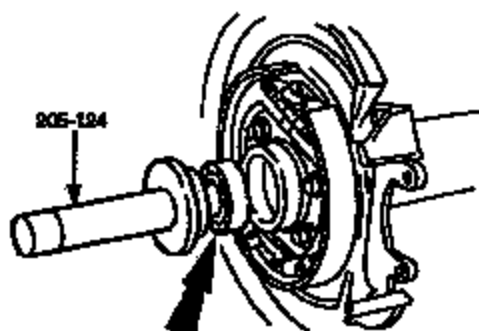

FIGURE 16
2. Using the special tool, install the rear wheel bearing (refer to Figure 16).